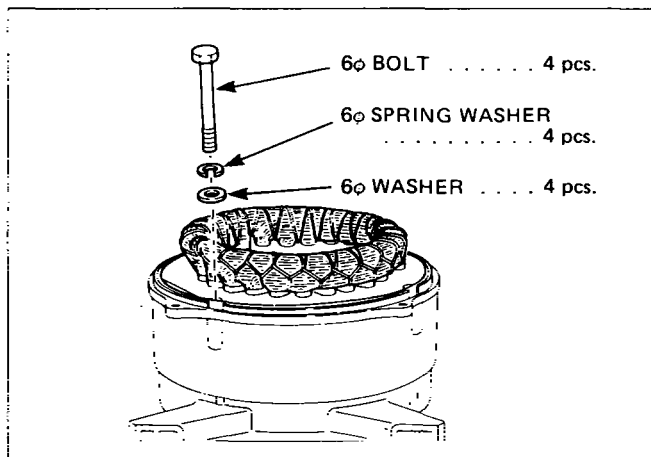

Fig. 10-25
Tighten the four bolts tentatively to check if the grooves and thread holes are aligned correctly. (See Fig.10-25.)
- (4) Join the stator to rear cover with four bolts, washers and spring washers. (See Fig.10-25.)